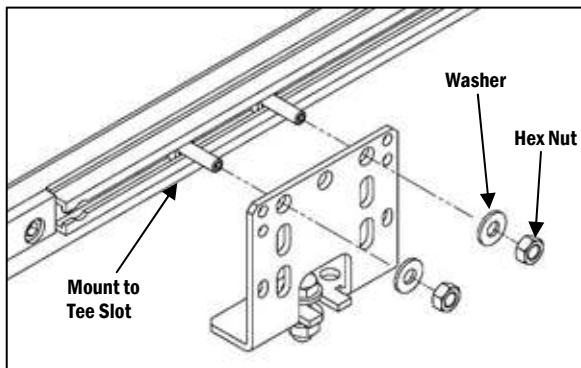

Figure 2
a. For the Tee Slot Mounted version (Figure 2), insert the 1/4-20 Square Nuts in the tee slot, and thread the 1/4-20 x 1" Set Screws into the Square Nuts.